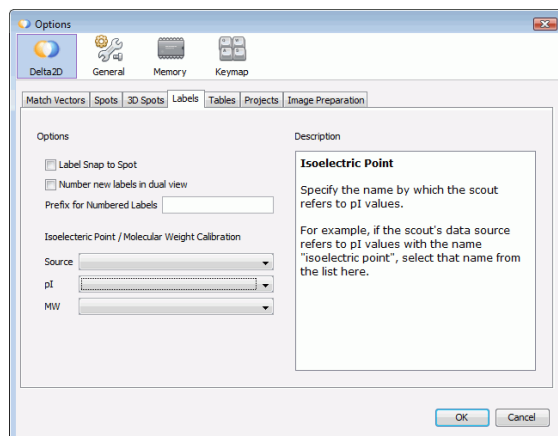

Figure 5.43.: Setting the data source for pI/MW-Calibration
- Now open the **Options** dialog (**Tools** ▷ **Options**) and switch to the **Labels** tab in the section **Delta2D** (see fig. 5.43 on page 107).